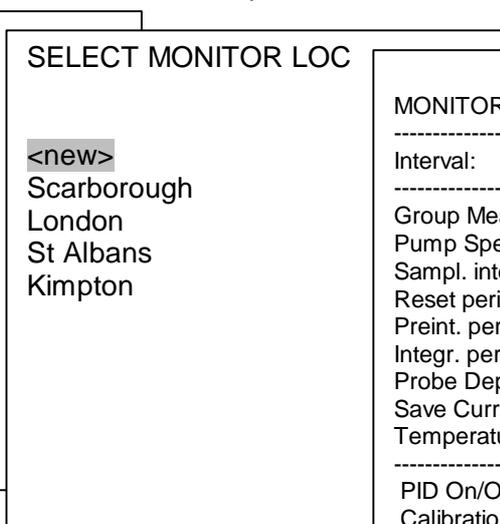

Figure 27: A list of localities and monitoring stations
- Select *Open MONITOR LOC* to access a list of all localities and monitoring stations (Figure 27).
- For entering an already existing monitoring station select the name of the monitoring station in the list of localities and monitoring stations (Figure 27). Its Monitoring Station Configuration File will be opened for possible changes. If you do not want to make any changes just return to the Main Menu by pressing *?* and following the instructions on the screen. Name of the selected monitoring station will be displayed after *MONITOR* in the Main Menu.